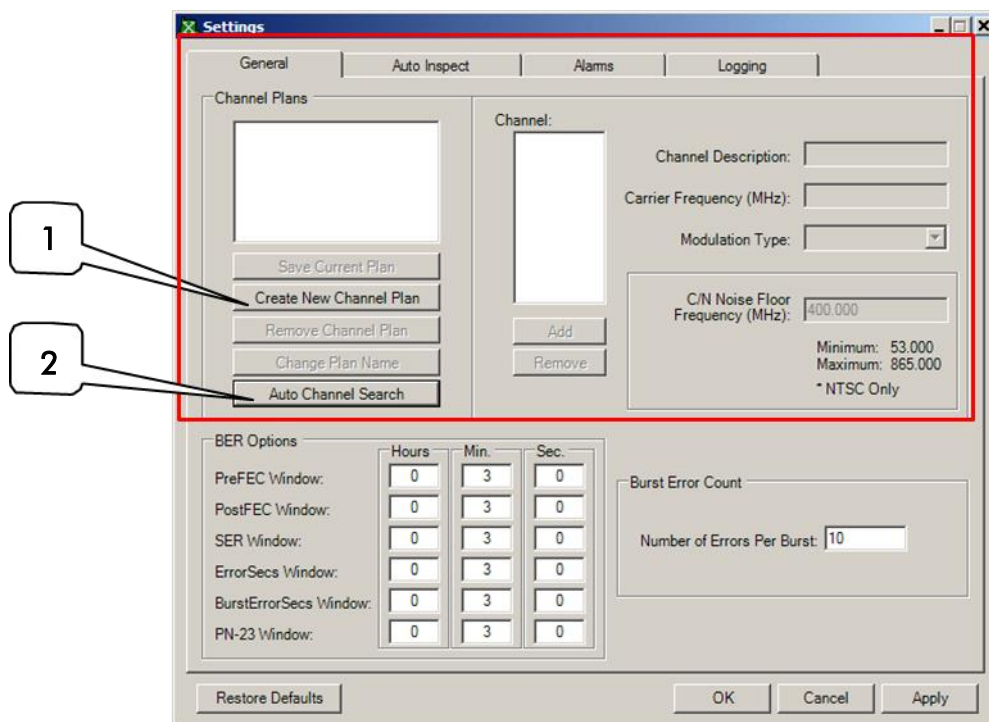

Figure 12. Creating a Channel Plan 2
4. **Digital Bit Error Display:** The Digital Bit Error Display within the system monitor tab provides bit error statistics that are averaged (or counted) over a specified time window. Defining the window size was described in the previous section (see Figure 12). This section is valid for 8VSB and QAM measurements, but will be grayed out when measuring an NTSC channel. Pass (green) / fail (red) / warn (yellow) color coded threshold indicators provide for quick diagnosis. The thresholds are user definable.